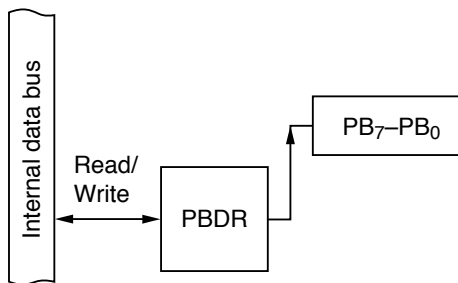

Figure 9-75 Output Port (Mode 7)
(3) Output Port (All Pins: Mode 7): Figure 9-75 shows a block diagram illustrating the general-purpose output function. Table 9-55 indicates register read/write data. The value written in the port B data register (PBDR) is output at the pin. When read, PBDR returns the value written in PBDR.